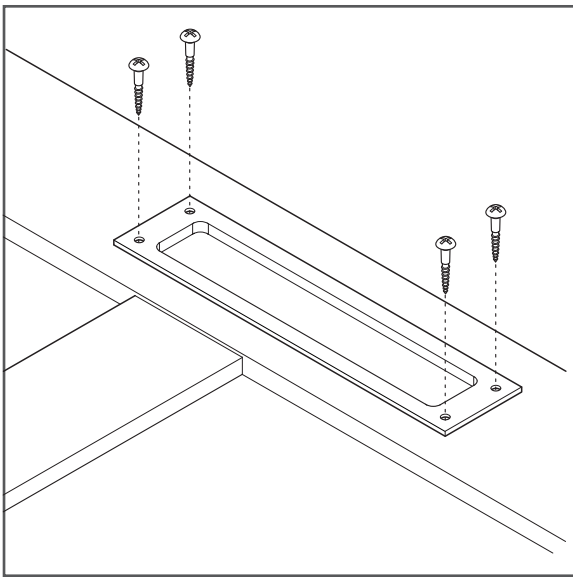

Figure 5
5. Attach the pull to the door using a phillips screw driver and the provided screws (Figure 5).